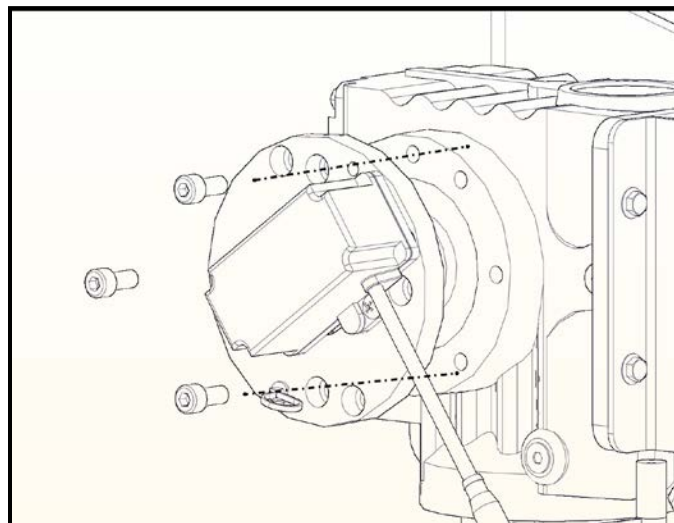

Figure 28
2. Slide the encoder and white UHMW mounting bracket over the Shaft End Feig Encoder and install the three (3) Allen head cap screws located in the small parts carton. (see Figure 28)